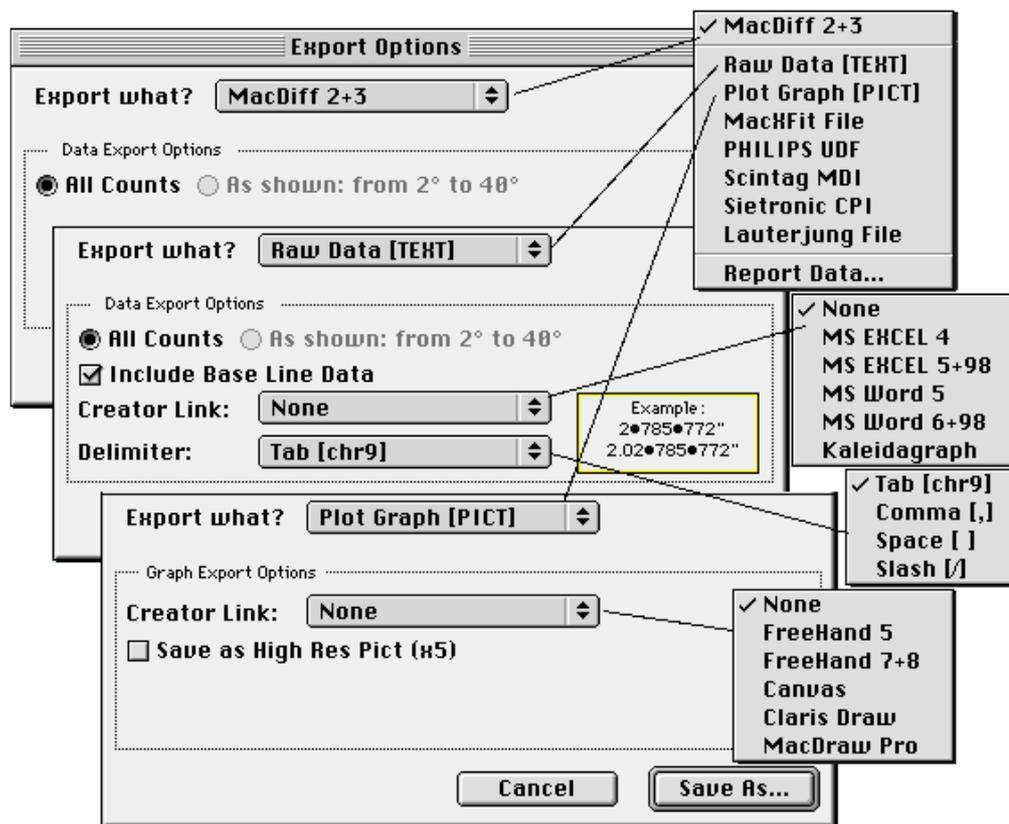

Fig. 10
- Clicking '**Auto Load**' (= Batch-Operation) will consecutively load all session files ('**OK**' button turns into '**Start Job**' button). The currently loaded files can then be processed automatically as well as being displayed, printed, and finally saved (indented check buttons). Optionally, the existing files can be overwritten or placed in a new folder 'Changed Diffs'. Even an automatic peak measuring is possible in case an analysis programme is available (for further details see '**Analyse : Analysis program..**'). To export the files into another format (provided it is supported by MacDiff) turn on '**Export Files**'. After loading the first file of the session this will display the export dialogue shown in Fig.10 for selection of the desired export format.
This menu function serves to export the data of the active diffractogramme, the diffractogramme graphics, or an existing report table, into another programme. This is done by the dialogue window as displayed in Fig. 10.
With an active '**Raw Data [TEXT]**' menu several settings are possible (Fig. 10). Angles, counts and, optionally, background values are being saved as ASCII-TEXT file. '**Include Base Line Data**' provides setting for background values to be saved. If the data are to be linked with the programmes Excel, Word or Kaleidagraph and be represented by an associated icon, activate a popup menu. Moreover, the separator symbol between individual values can be set (tabulator, comma, blank or slash). If it is not certain, which import format is accepted by the table calculation programme or XRD programme in use, employ the tabulator first. MacDiff reimports all TEXT formats available there.